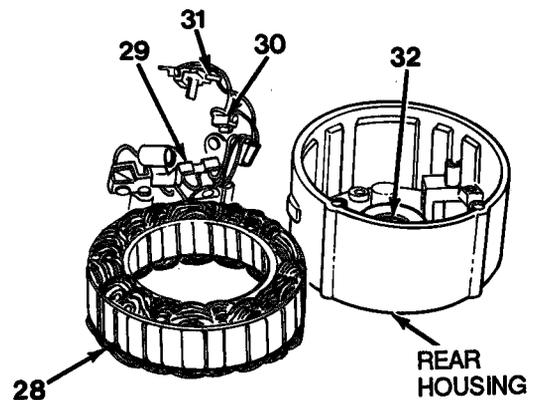

Figure 10-9
11. Remove stator assembly (28), diode bridge rectifier (29), AC terminal (30) and terminal (31, Figure 10-9) as an assembly from rear housing.